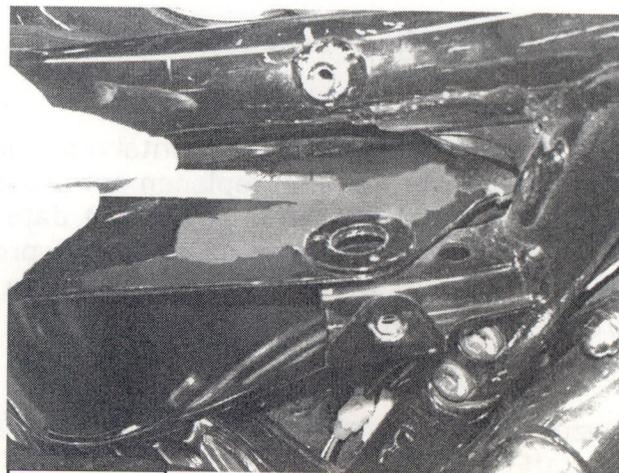

FIGURE 2
3. Refer to Figure 2. Using the wood stick, mix all of the contents of one jar into the other until a uniform gray color is achieved. The sealant (white) and catalyst (black) when mixed together have a working life of 30 minutes. Apply an even coat to the area that is leaking and approximately 1/2" to 3/4" beyond the damage on all sides. Allow the sealant to cure. The sealant will be dry to the touch after 8 hours and fully cured after 30 hours.